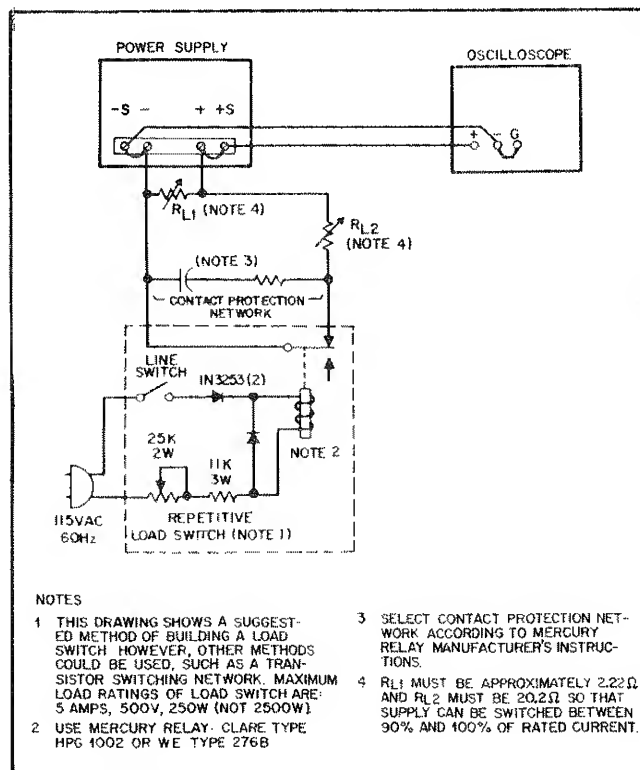

Figure 5-5. Load Transient Recovery Time Test Setup
5-33 We suggest that a mercury-wetted relay connected in the load switching circuit shown in Figure 5-5 be used for loading and unloading the supply. When this load switch is connected to a 60 Hz ac input, the mercury-wetted relay opens and closes 60 times per second. The 25 k control adjusts the duty cycle of the load current switching to reduce jitter in the oscilloscope display. This relay may also be used with a 50 Hz ac input.
- a. Connect load resistor R_L (Figure 5-5) across output of supply. Do not connect R_{L2} and load switch at this time.
- g. Turn off supply and connect load switch and load resistors as shown in Figure 5-5.